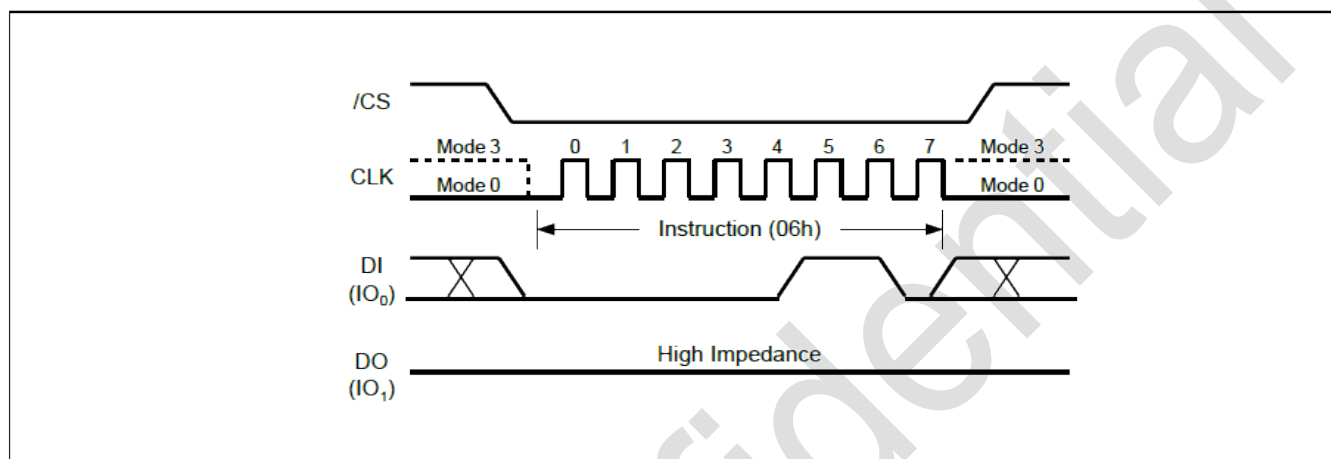

Figure 4. Write Enable Instruction for SPI Mode
Instructions vary in length from a single byte to several bytes and may be followed by address bytes, data bytes, dummy bytes (don't care), and in some cases, a combination. Instructions are completed with the rising edge of edge /CS. Clock relative timing diagrams for each instruction are included in Figures 4 through 35. All read instructions can be completed after any clocked bit. However, all instructions that Write, Program or Erase must complete on a byte boundary (/CS driven high after a full 8-bits have been clocked) otherwise the instruction will be ignored. This feature further protects the device from inadvertent writes. Additionally, while the memory is being programmed or erased, or when the Status Register is being written, all instructions except for Read Status Register will be ignored until the program or erase cycle has completed.
The Write Enable instruction (Figure 4) sets the Write Enable Latch (WEL) bit in the Status Register to a 1. The WEL bit must be set prior to every Page Program, Quad Page Program, Sector Erase, Block Erase, Chip Erase, Write Status Register and Erase/Program Security Registers instruction. The Write Enable instruction is entered by driving /CS low, shifting the instruction code "06h" into the Data Input (DI) pin on the rising edge of CLK, and then driving /CS high.